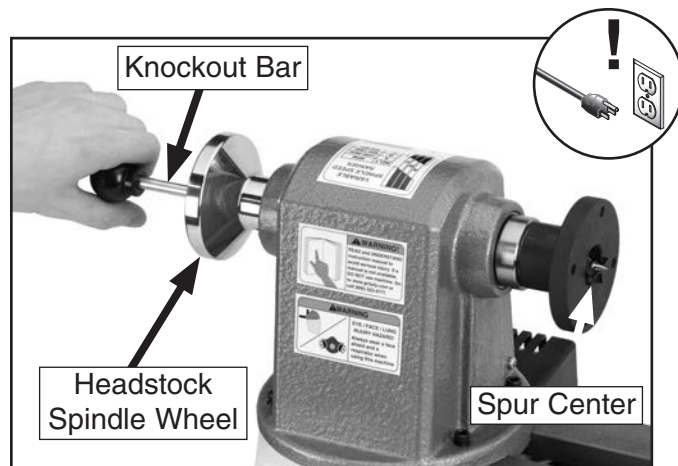

Figure 25. Removing spur center.
2. Insert the knockout rod into the outboard end of the spindle. Use a shop rag or wear a glove to catch the center and gently tap the rod handle until the spur center is freed from the spindle (**Figure 25**).